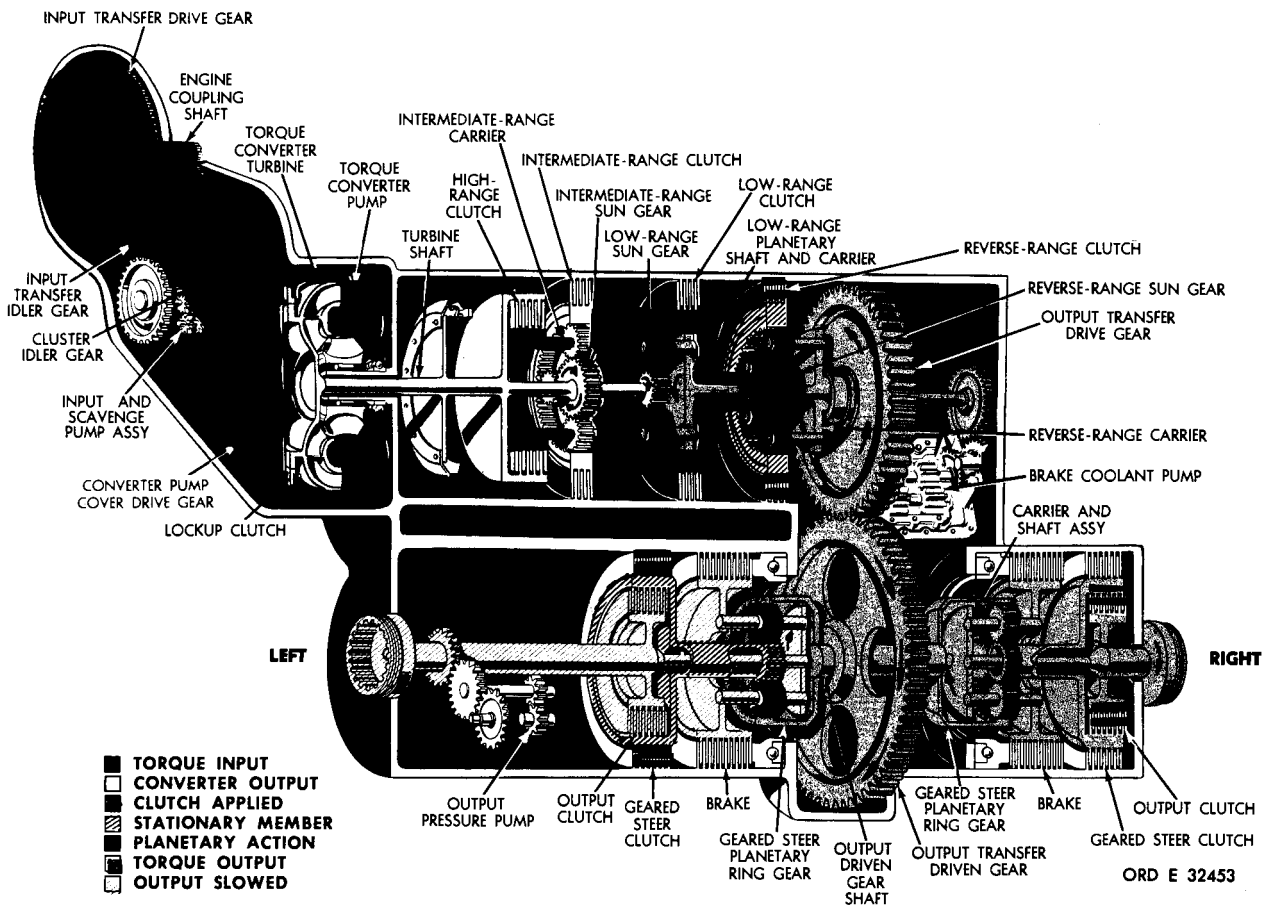

Figure 34. Reverse 2-gear, full-left-steer torque path, converter operation
58. TORQUE PATH - REVERSE 2 GEAR, FULL-LEFT STEER, CONVERTER OPERATION (fig. 34)